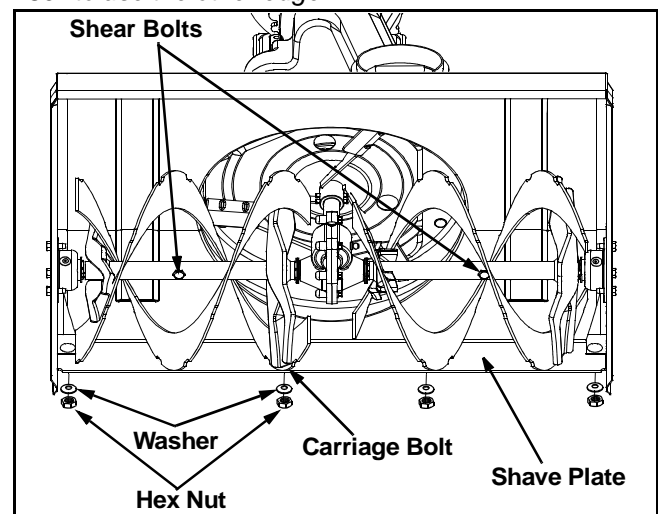

Figure 15
The augers are secured to the spiral shaft with two shear bolts and hex lock nuts. If you hit a foreign object or ice jam, the snow thrower is designed so that the bolts may shear. See Figure 15.
- To remove the shave plate, remove slide shoe as well as the carriage bolts, belleville washers and hex nuts which attach shave plate to the snow thrower housing. Refer to Figure 15.